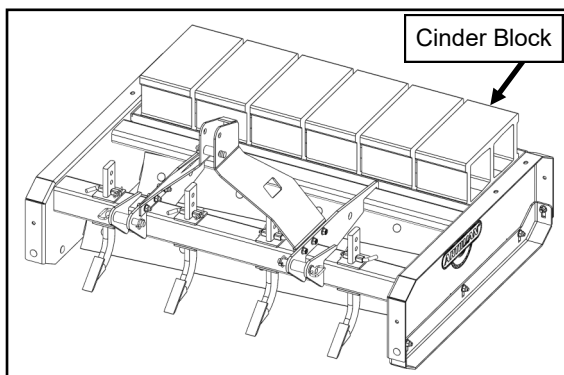

Fig. 4 (Add Cinder Blocks)
4. Place up to six standard 8"x8"x16" cinder blocks in place as shown in Figure 4.